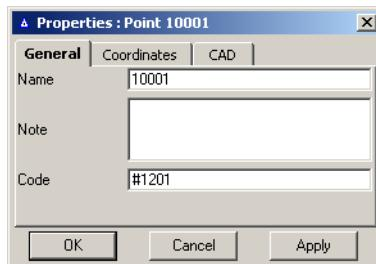

Figure 4-59. Point Properties – General Tab
- On the **Properties** dialog box, click the *General* tab (Figure 4-59 on page 4-45).